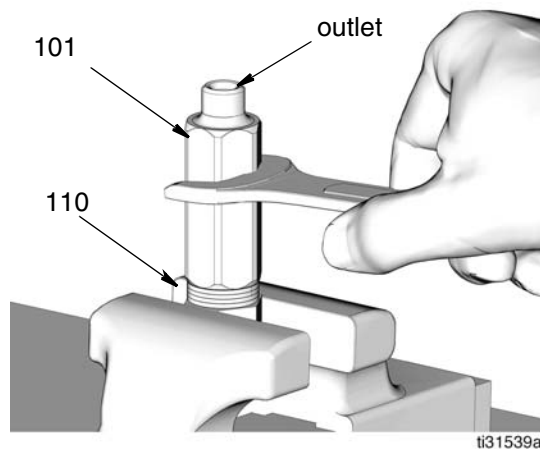

FIG. 39
4. Add or remove output spacers (110) (FIG. 39, page 45) from the injector valve assembly.